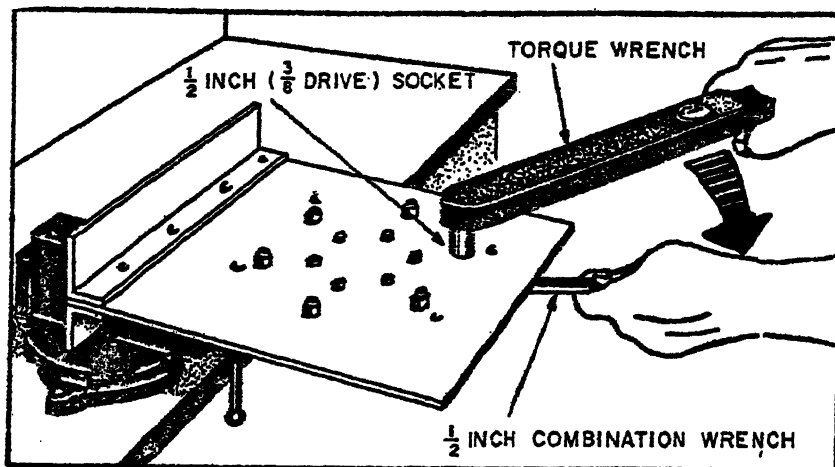

FIGURE 4
- d. Place the torque wrench on the self-locking nut and with a smooth steady motion, pull in a clockwise direction until the torque value is 165 inch-pounds. See figure 4.
- b. Place the torque wrench on the castellated nut and with a steady pull, tighten the nut to the low limit of the torque range (130 inch-pounds). See figure 4.
- *(1) If passageway and slot are not aligned, reapply the torque wrench and slowly tighten the nut toward the maximum value of torque (190 inch - pounds).
- *(2) Occasionally remove the torque wrench to check alignment.
- *(3) If the slot of the nut does not align with the drilled bolt shank when maximum torque is reached, the nut must be removed and replaced with a different nut; then, repeat steps 3a through 3c.